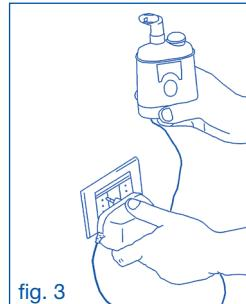

fig. 3
3. Reinsert the unit upper part and connect the nebulizer to the power mains using the special power unit as indicated in figure 3.